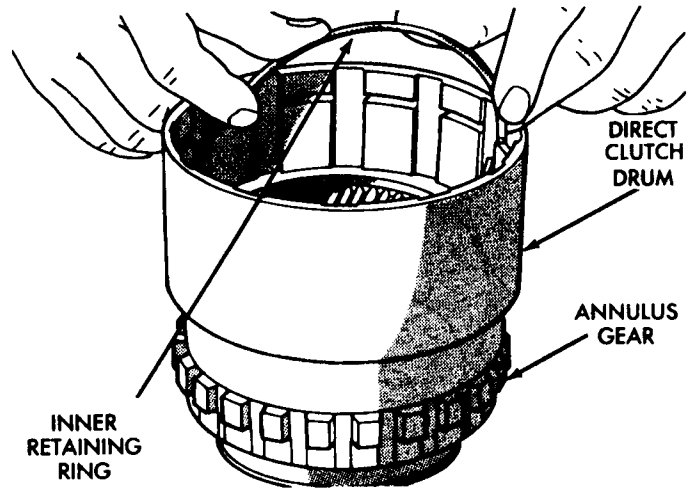

Fig. 47 Clutch Drum Inner Retaining Ring Installation
(8) Slide clutch drum forward and install inner retaining ring (Fig. 47).